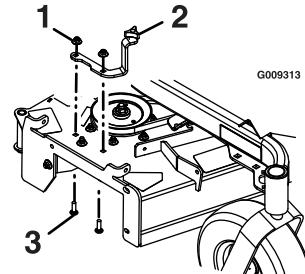
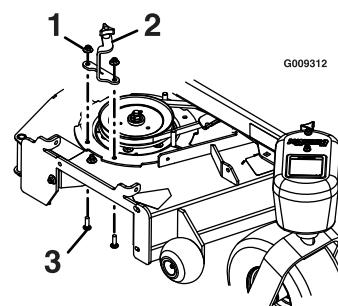

Figure 10
Figure 11
2. Install the belt cover bracket using the two 3/8-16 x 1 1/4 inch carriage bolts and two 3/8-16 inch nyloc nuts (see Figure 10 or Figure 11).